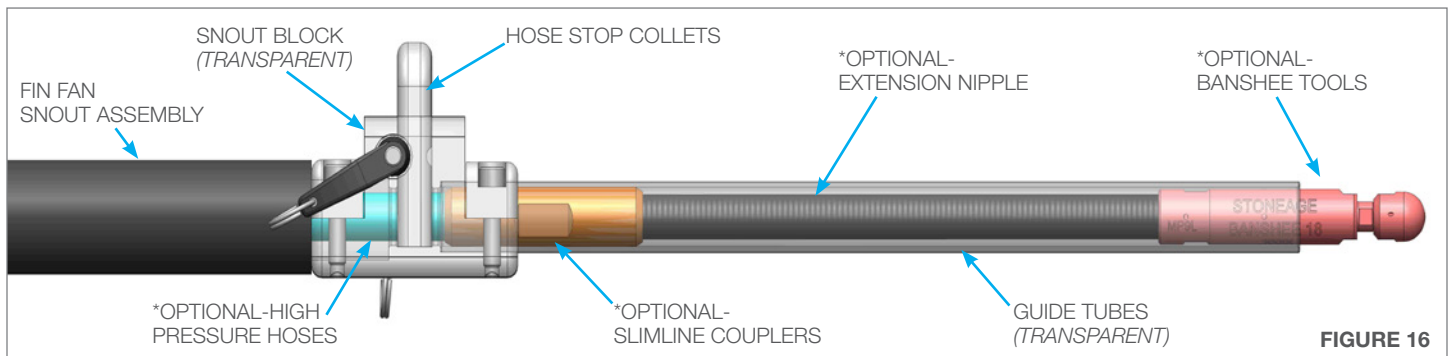

FIGURE 16
16. The Snout Block and Guide Tubes are transparent in **(Figure 16)** to illustrate how the Hose Stop Collets act as back out prevention devices.